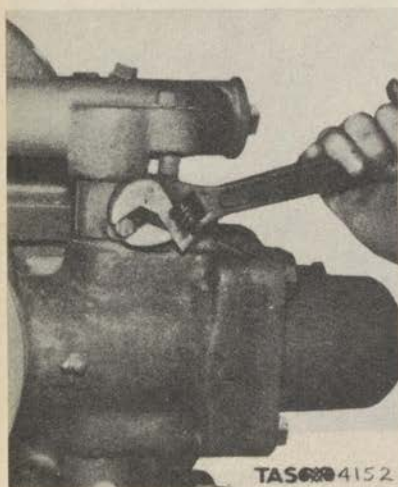

Figure 170. Removal of Eight (8) Pump Valve Body Drain Plugs.
(4) Remove eight (8) hexagonal head drain plugs from the pump valve bodies (upper and lower). (Fig. 170)